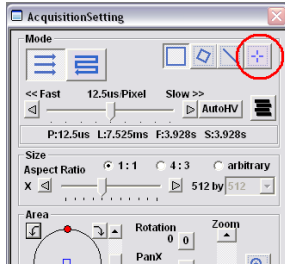

Fig. 2.18: Point Measurement Mode in the FluoView 1000 software
1. **FluoView 1000 software:** Enable the point measurement mode (Fig. 2.18).